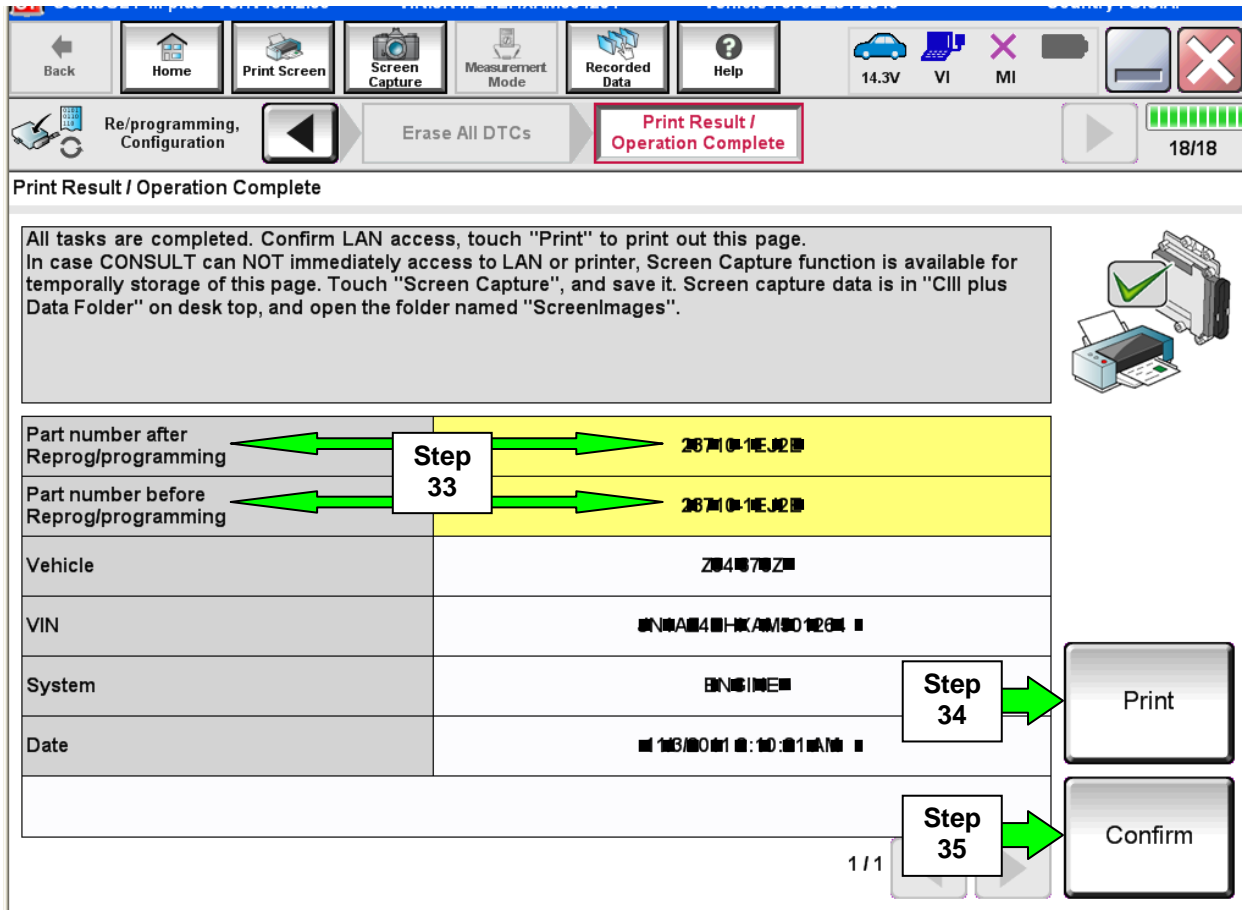

Figure 24a
34. Print a copy of this screen (Figure 24a) and attach it to the repair order.